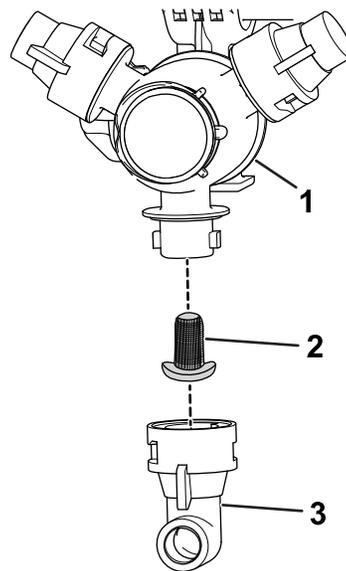

Figure 112
2. Remove the nozzle from the spray turret (Figure 112).
3. Remove the old nozzle filter (Figure 112).
4. Install the new nozzle filter (Figure 112).
5. Install the nozzle onto the spray turret (Figure 112).